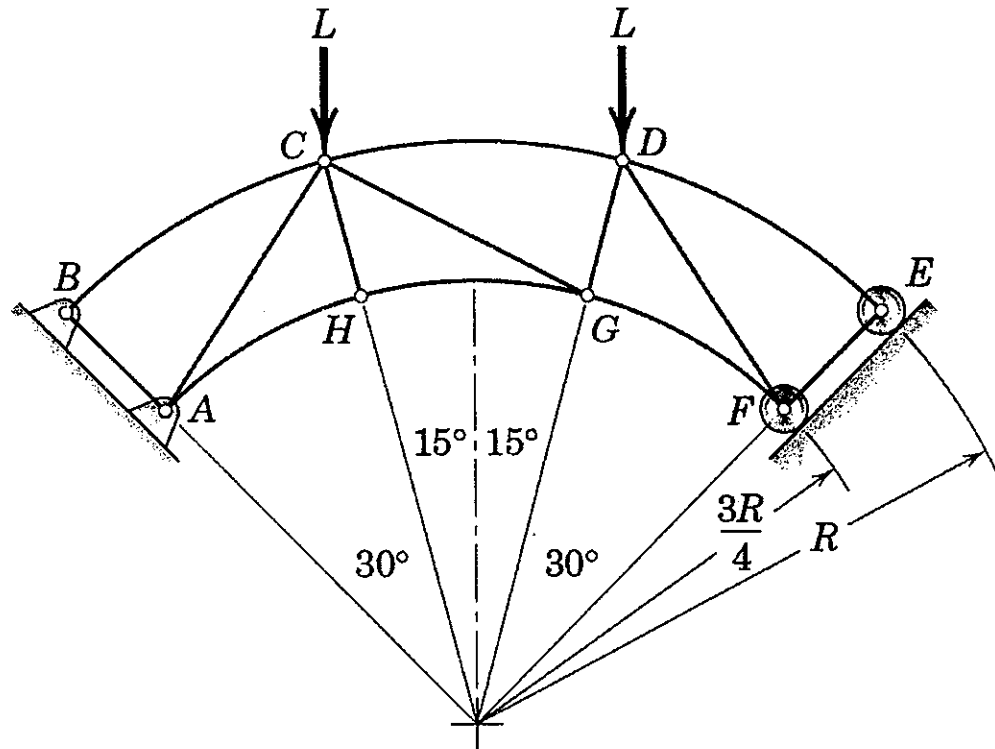

Fig. 2
2. Determine the force in member CG of the loaded truss, as shown in Fig. 2. Assume that the four external reactions at A, B, E, and F are equal in magnitude and are directed perpendicular to the local supporting surface. (15%)